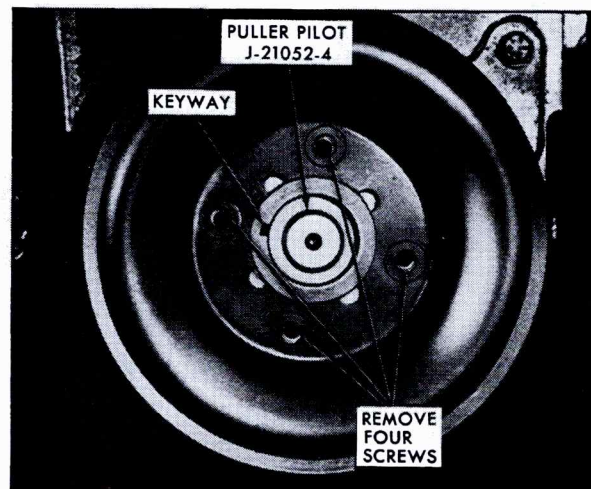

Fig. 6-120 Installing Balancer Pilot
9. Install Harmonic Balancer Puller Pilot, J-21052-4, in bore in end of crankshaft, Fig. 6-120.